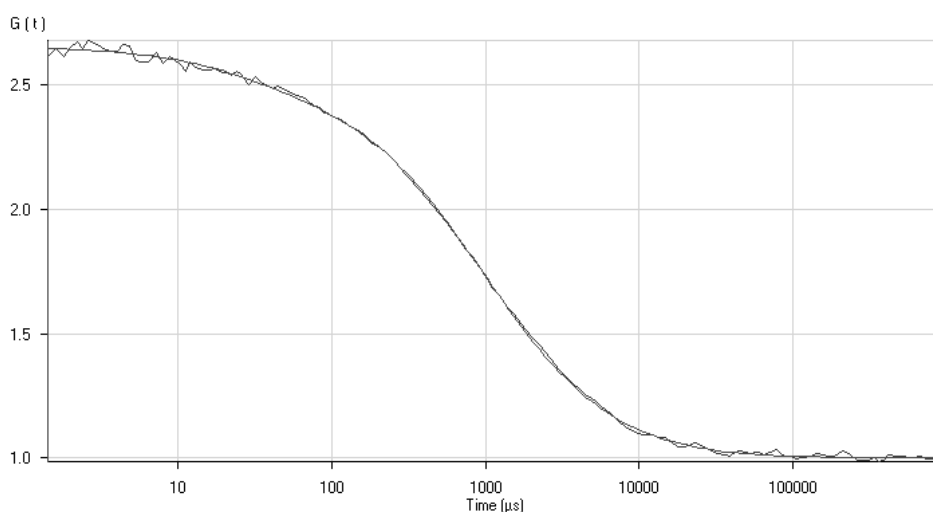

Fig. 3-111 The Correlation Curve window in restricted display
- Select **Use fit limits to restrict view range** to display only the part of the correlation curve that is used for fitting as determined by the **Start channel** and **End channel**, respectively (see Fig. 3-111). Selection of this option will automatically activate this form of display for the Correlation diagram as well.